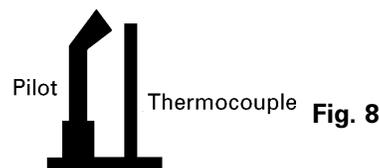

Fig. 8
3. Wait five (5) minutes to clear out any gas. Then smell for gas, including near the floor. If you smell gas, STOP! Follow "B" in the safety information above on this label. If you don't smell gas, go to the next step.
4. Locate pilot (Fig. 8) in the center behind the middle stainless steel burner underneath the middle log.
4. Locate pilot (Fig. 8) - located in the center behind the middle stainless steel burner underneath the middle log.